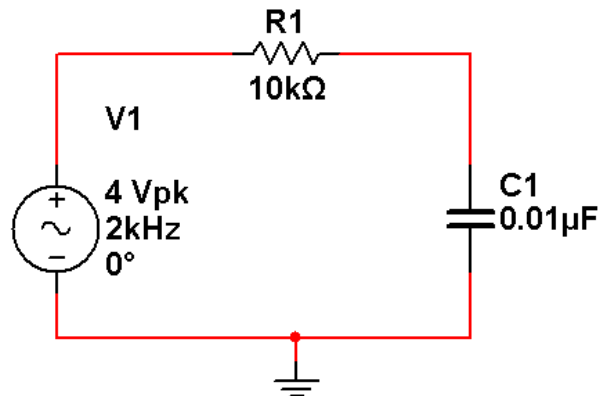

Figure 10 – Circuit for pre-lab question 2 and lab procedure.
2. Build the circuit in Fig. 10 in Multisim, using the *AC_VOLTAGE* component.
1. Build the circuit from Fig. 10 on your ELVIS board. The $0.01 \mu\text{F}$ capacitor is labeled with the code 103 on it. Use the large amplitude waveform generator because the function generator cannot supply a 4 V amplitude. (Remember output is from *DAC0*.)